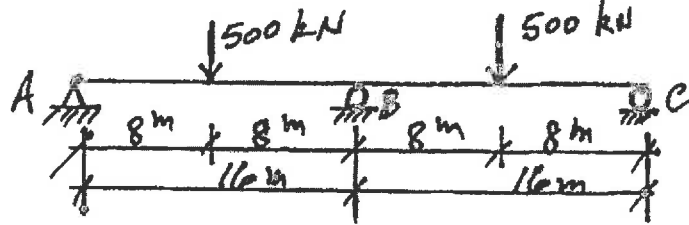

FIGURE 1
1. Figure 1 shows a two-span continuous welded steel plate girder: